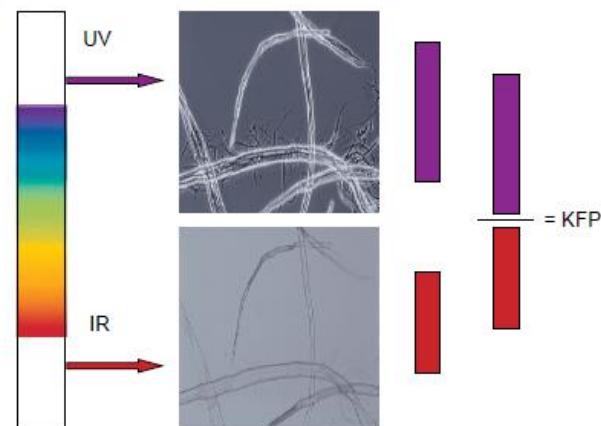

Fig. 2 - The principle of crill measurement
stronger will the paper be. By measuring the amount of crill it is possible to pre-calculate the strength of the paper and hence to define the refining needed to optimize the amount of crill. The crill content of the pulp is shown in Figure 2 is a linear function of the specific refining energy applied. This linearity makes managing crill content a simpler task.
The crill measurement is based on the comparison of two optically measured surface areas by light absorption. It is adapted from the kappa measurement optical detection system. The total area of fibres and crill is measured with ultraviolet (UV) light. The total area of fibres only is measured with infrared (IR) light. The light absorption measurements are extremely fast, which is an advantage for online detection and measurement update speeds. The "crill variable", KFP, is a concentration independent ratio, obtained when the fibre plus crill area (UV) is divided by the fibre only area (IR). The measurement can differentiate between crill particles that are detached from the fibres and those which are still attached. Figure 2 illustrates the principle of measurement.